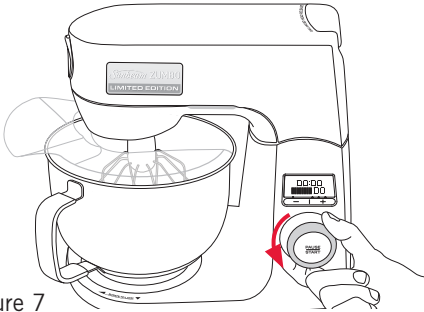

Figure 7
6. When mixing is complete, turn the speed control dial anti-clockwise to the '0' position (Fig. 7) and unplug the cord from the power outlet.